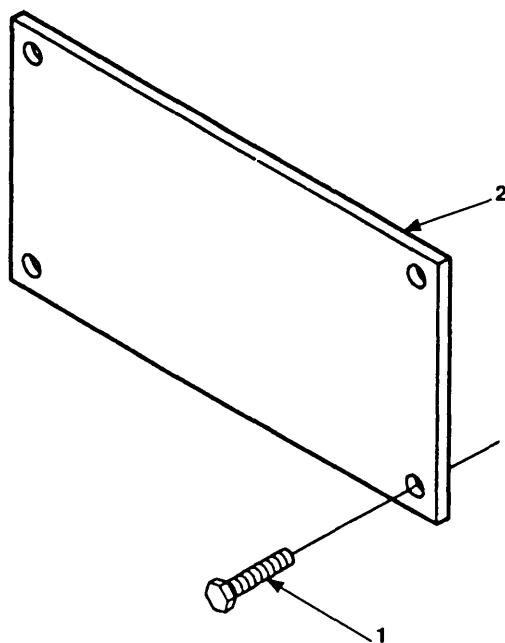

Figure 4-72. Data Plate Maintenance.
- a. Remove retaining hardware (figure 4-72, 1) from data plate (2).
- b. Remove data plate (2).
- a. Position data plate (2) in place.
- b. Use pop rivets to secure new data plate (2).